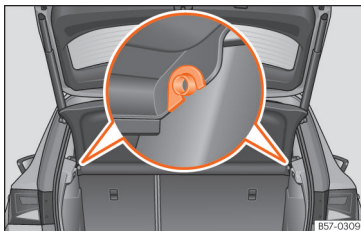

Fig. 171 In the boot: removing and installing the shelf.
- Remove the rear shelf from the side supports »» **Fig. 171** by pulling it upwards and then take it out.
- Insert the cover horizontally so that the “recess” fits onto the axis of the supports »» **Fig. 171** and press down until it engages.